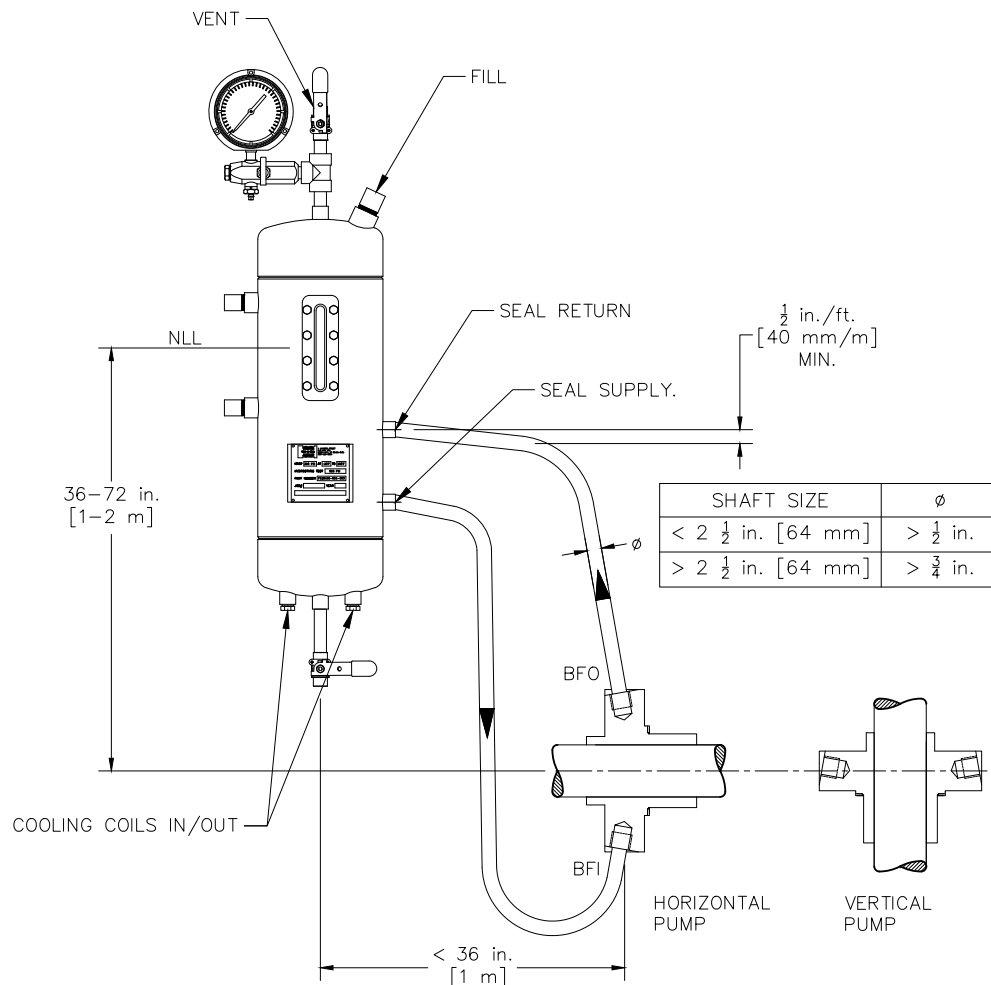

Figure 12: Typical installation of a buffer/barrier fluid reservoir.
1. Correctly make connections between the buffer/barrier fluid system and the mechanical seal according to the connection labels on the prints. In the case of a Piping Plan 52 or Plan 53A the SEAL SUPPLY connection (lower port) on the reservoir must lead to the buffer/barrier fluid in (BFI) connection on the seal gland; the SEAL RETURN connection (upper port) on the reservoir must lead to the buffer/barrier fluid out (BFO) connection on the seal gland (Figure 12).